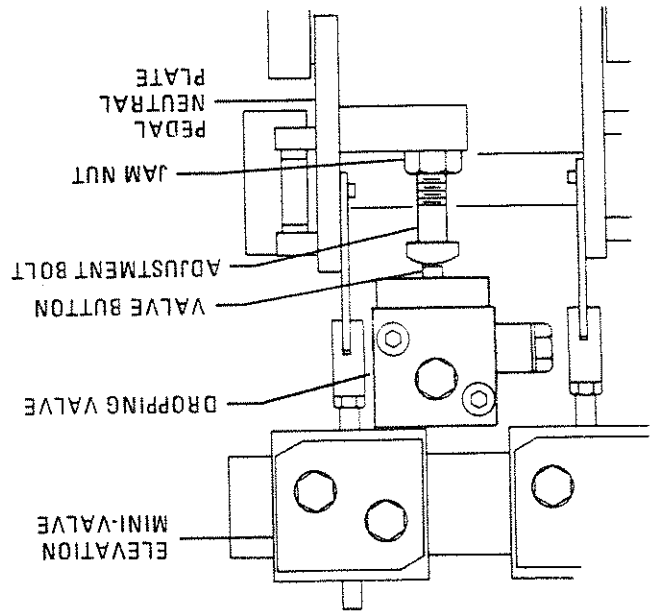

Figure 1-35, Model 1200
3. Adjust either the valve (by sliding it back and forth) or turn the adjustment bolt (depending on model) so that the valve button is depressed when the foot control lever is in the down position. See figure 1-35, and 1-36.